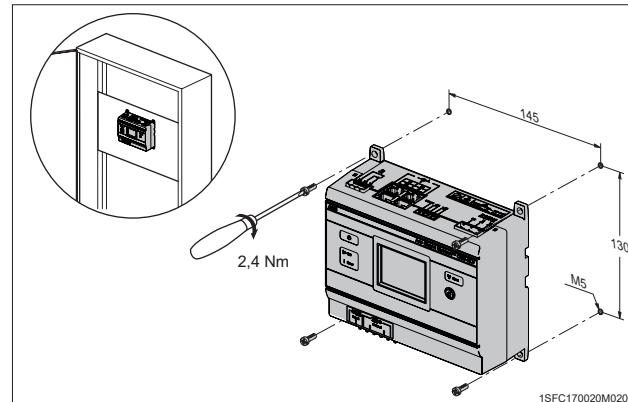

Figure 3
1. Predrill holes in the wall to fit screws M5. See **Figure 3** for dimensions.